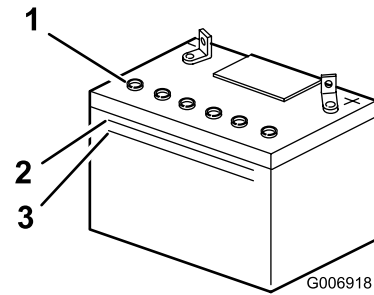

Figure 26
2. Look at the side of the battery. The electrolyte must be up to the Upper line (Figure 26).
Note: Do not allow the electrolyte to fall below the Lower line (Figure 26).
3. Remove the vent caps from the battery (Figure 26).
4. Slowly pour distilled water into each battery cell until the electrolyte level is up to the Upper line (Figure 26) on the battery case.
5. Wait 5 to 10 minutes after filling the battery cells. Add distilled water, if necessary, until the electrolyte level is up to the Upper line (Figure 26) on the battery case.